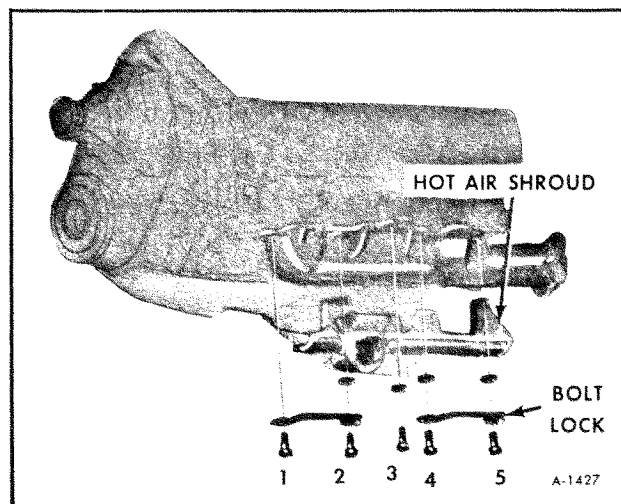

Figure 15—Hot Air Shroud
2. Remove hot air shroud as shown in Figure 15.
1. Position exhaust manifold on engine and install bolts No. 3 and 4 finger tight. (See figure 15).